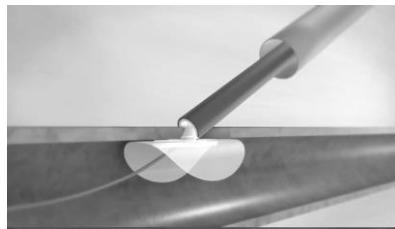

Figure 13. Tamponade position, implant positioned juxtaposition to arteriotomy.
- Continue to withdraw the device a further 1.5 graduations (= 3.5 graduations total). At this point, gentle tactile resistance should be felt as a result of the implant anchoring itself against the inside lumen of the artery wall. This is the tamponade position, and the implant is now controlling the bleeding from the arteriotomy. Figure 13.